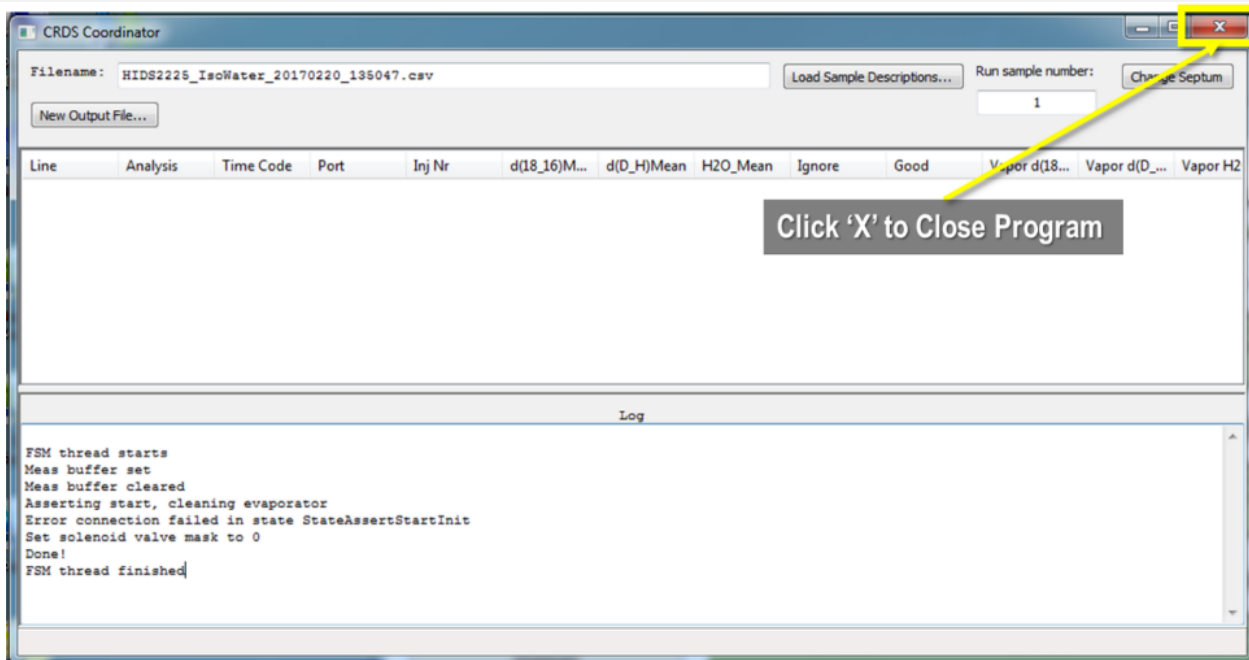

Figure 188. Close CRDS Coordinator.
STEP 2 | Close the **CRDS Coordinator** window. Click 'X' in **Figure 188** below. Skip this step if the program is not open. The green **CRDS Data Viewer** may remain open for this process.